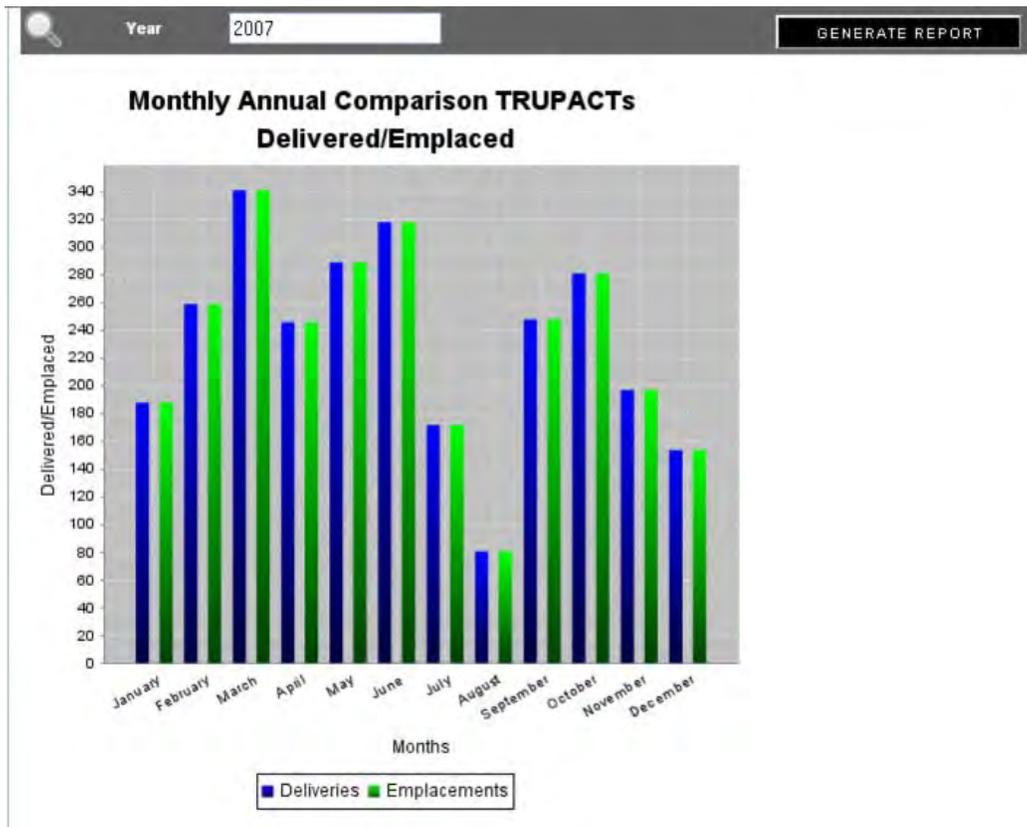

Figure 6 - 8 – Monthly Annual Emplacement Comparison Graph
6.5.1 Select the **Year** as shown in Figure 6 - 9.